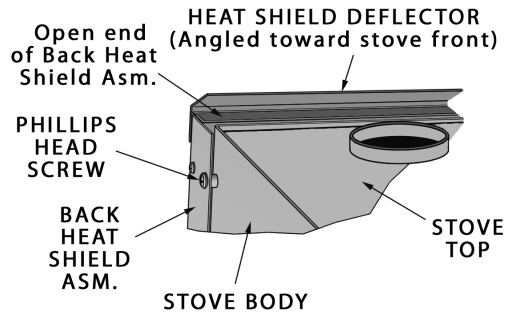

Fig. 3 – Back Heat Shield and Deflector Assembly (top view)
8. Attach the back heat shield assembly (#2) to the rear of the stove. The closed end is positioned to the bottom of the stove with the open end up, fig. 3. Secure the back heat shield with four Phillips head machine screws using the threaded holes located